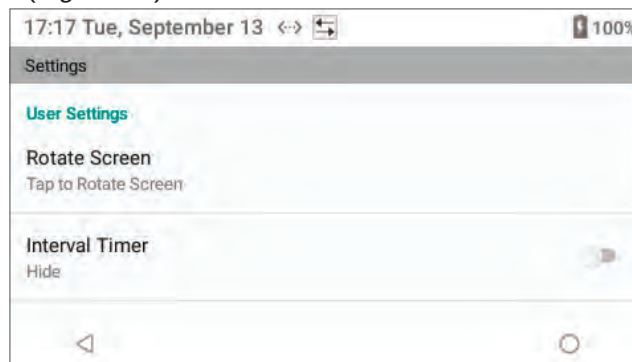

Figure 14: Rotate Screen
- 2 Tap **Rotate Screen** (Figure 14) and the screen will rotate 180°.